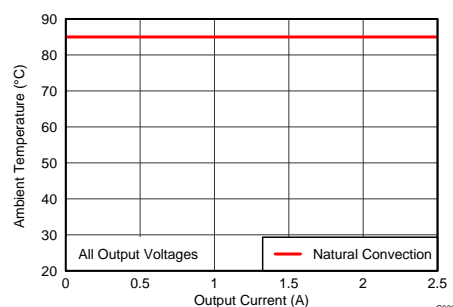

Figure 5. Safe Operating Area
- (2) The temperature derating curves represent the conditions at which internal components are at or below the manufacturer's maximum operating temperatures. Derating limits apply to devices soldered directly to a 100 mm × 100 mm double-sided PCB with 1 oz. copper. Applies to Figure 5.